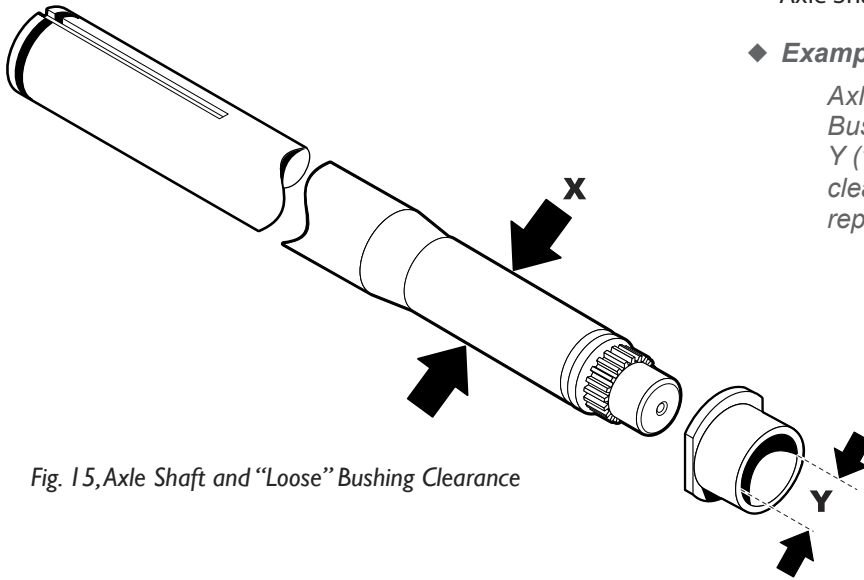

Fig. 15, Axle Shaft and "Loose" Bushing Clearance
4. With the Thrust Washers and C-Rings removed, hold the Gear Assembly in place. Carefully back out both Axle Shafts until the shafts splines clear the Side Gears. Remove the Gear Assembly and inspect components for wear or damage. (Fig. 15)
1. Using calipers (digital recommended) measure the O. D. (X) of the Axle Shaft. (Fig. 15)
2. Measure the I. D. (Y) of the "Loose" Bushing. (Fig. 15)